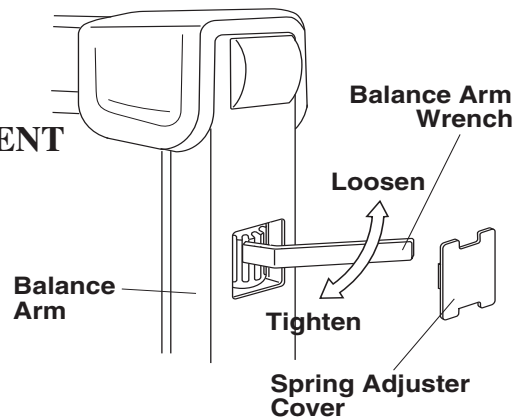

Fig.4-2 Balance Arm Tension Adjustment
2. If either balance arm drifts higher or lower from the set position, remove the spring adjuster cover and adjust the balance arm spring tension with the balance arm wrench supplied. (**Fig.4-2**)